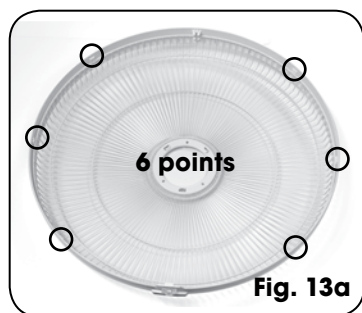

Fig. 13a
8. Align and press together the front and rear grille, ensuring that the clear plastic clasp is in line with the LED screen. Securely snap shut the front and rear grilles by pressing together at 6 points around the edges of the grilles (See Fig 13a and b).